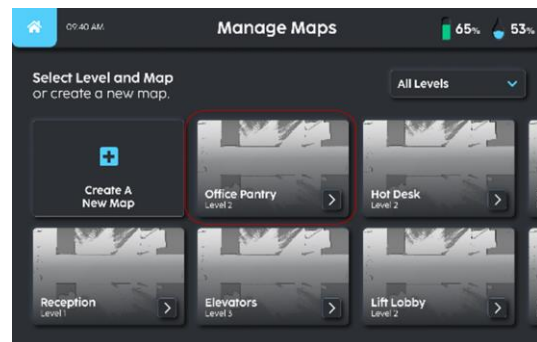

FIGURE 8-5
2. Select the mapped area of operation (Fig 8-5).